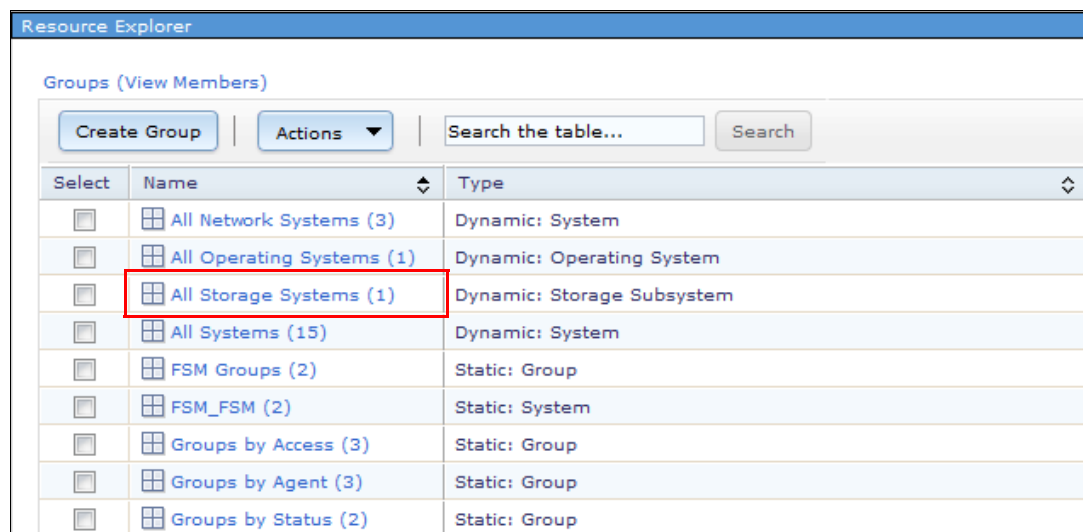

Figure 3-91 Navigate to all storage subsystems
- Navigate to manage discovered storage, as shown in Figure 3-91.